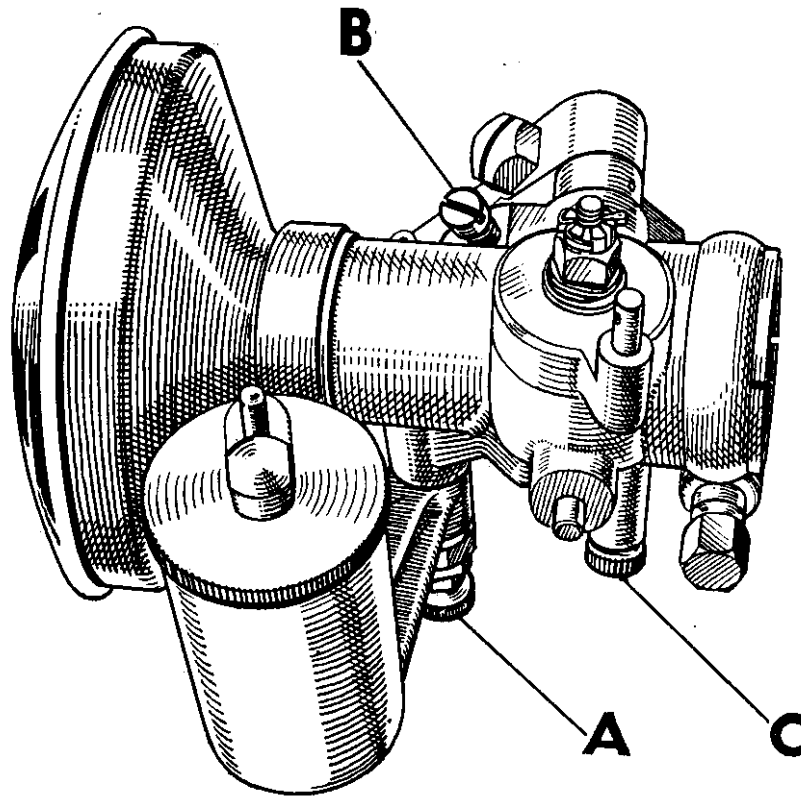

Fig. 5. Carburetter.
Check the carburettor setting to ascertain that this has not been interfered with. The correct position for the main jet control is about half a turn open, and for the slow running adjustment about four turns open, both figures being approximate as described under the carburettor heading on page 11. The main and slow running adjusters are shewn in Fig. 5, and are marked *A* and *C* respectively.
**No. 1—Main Jet.** With the throttle set wide open and the engine working under a maximum load, i.e. with the governor fully extended, adjust the main jet screw *A* (Fig. 5) to its best position. This is done by screwing the knurled head into the jet holder, i.e. towards until a point is reached when the power appears too full. Then unscrew a fraction of a turn. This will give the best possible power consistent with good fuel economy.